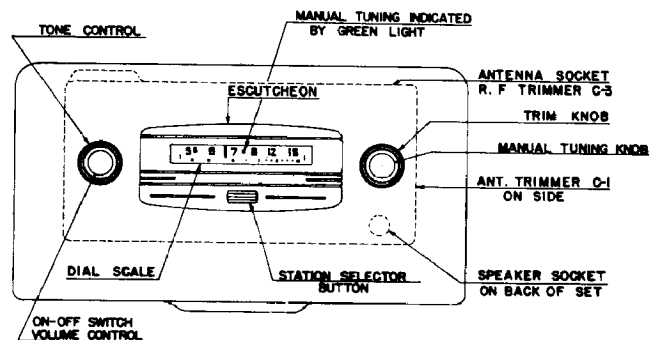

Fig. 2. Front View
1. Press the Station Selector push button (Fig. 2) several times or until the green dot in the dial scale is illuminated.